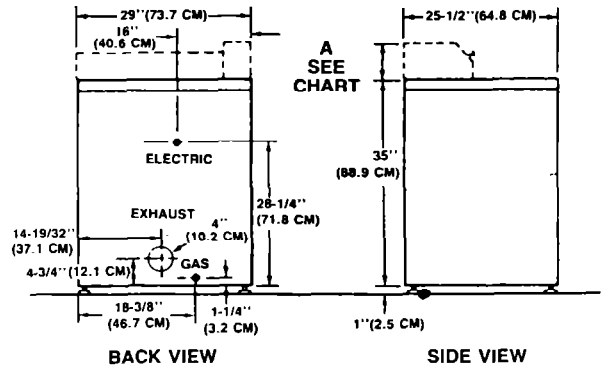

FIGURE 5
5. Exhaust outlet at rear of the dryer is located as shown in (Figure 5). Detailed instructions on spacing for side and rear clearances can be found in the section "Instructions for Recessed or Closet Installation." Information on minimum spacing side to side and to the rear is also found on a label located on back panel.